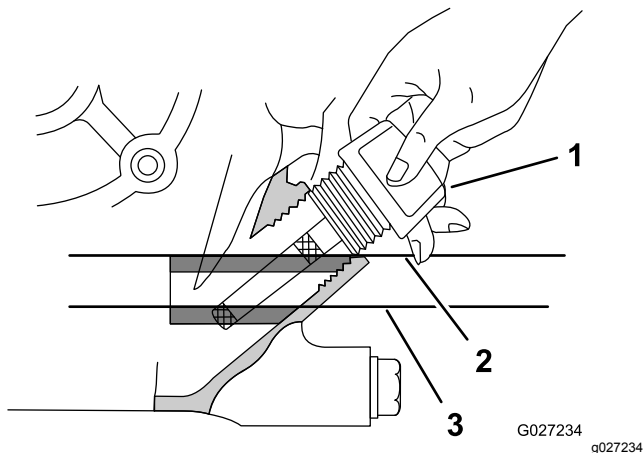

Figure 14
4. Remove the dipstick from the engine and wipe the dipstick with a clean rag (Figure 14).
5. Insert the dipstick from the engine as shown in Figure 14.
6. Remove the dipstick from the filler neck and look at the oil level in the dipstick (Figure 14).
Note: The engine oil level must cover between the hatch marked areas on the dipstick (Figure 14).
8. Hand tighten the dipstick into the filler neck (Figure 14).